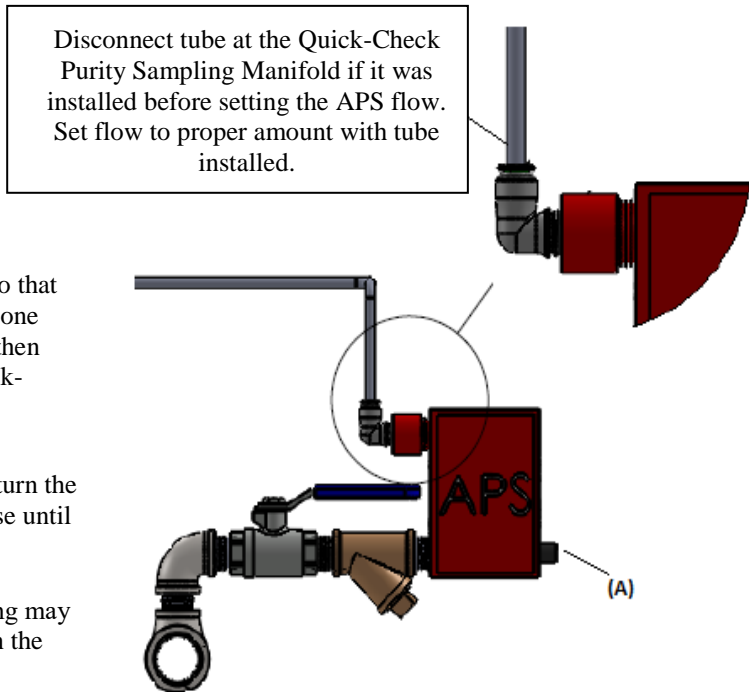

Figure 25: APS Field Installation
4. Slowly open the ball valve on each APS, then turn the APS flow control (Figure 25) counter-clockwise until the center of the float bead reaches setting D.